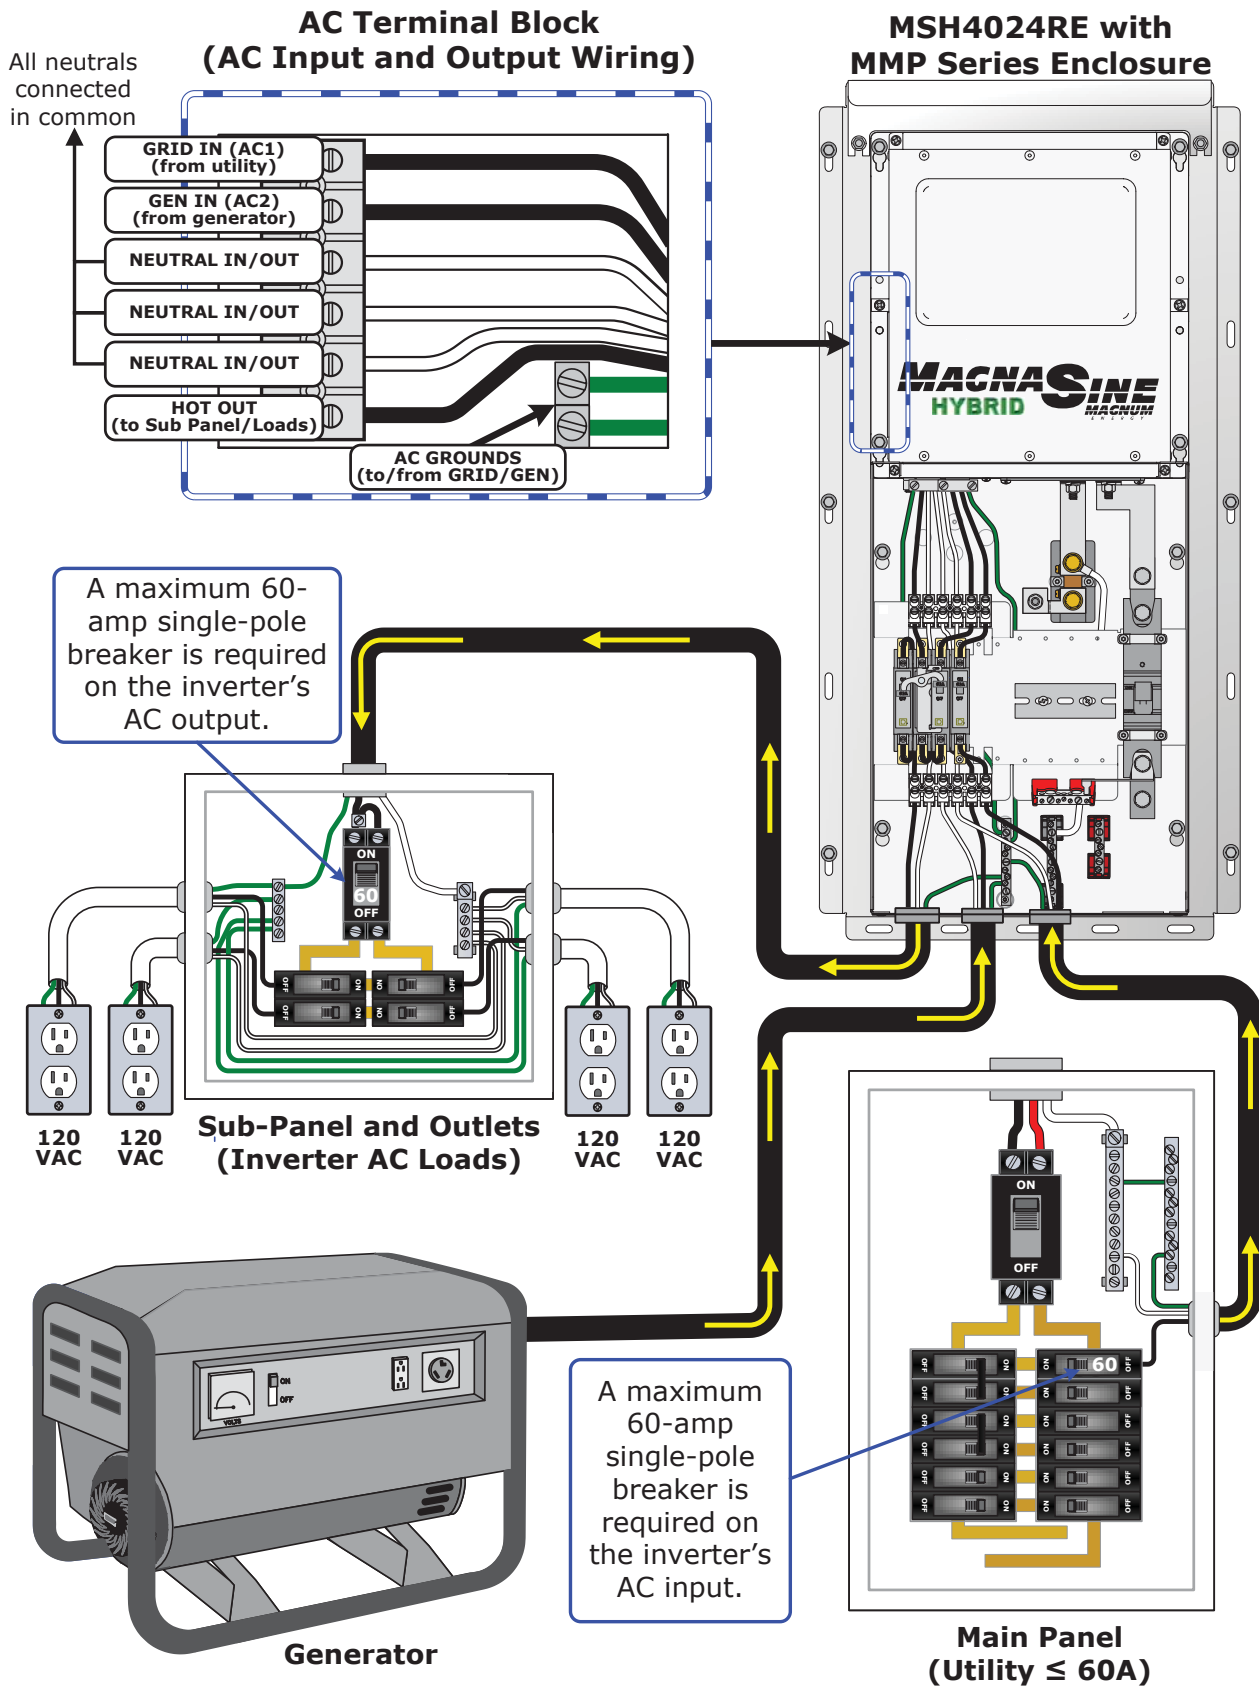

Figure 2-9, AC Wiring
1. Route the wires (HOT1, NEUTRAL1, and GROUND1) from the AC electrical main panel through one of the strain relief clamps on the inverter (Item 8, Figure 1-2). Tighten the strain relief clamp securely on the wires. Always leave a little extra slack in the wiring. Refer to Figure 2-9.
1. Route the wires (HOT2, NEUTRAL2, and GROUND2) from the generator through one of the strain relief clamps on the inverter (Item 8, Figure 1-2). Tighten the strain relief clamp securely on the wires. Always leave a little extra slack in the wiring. Refer to Figure 2-9.